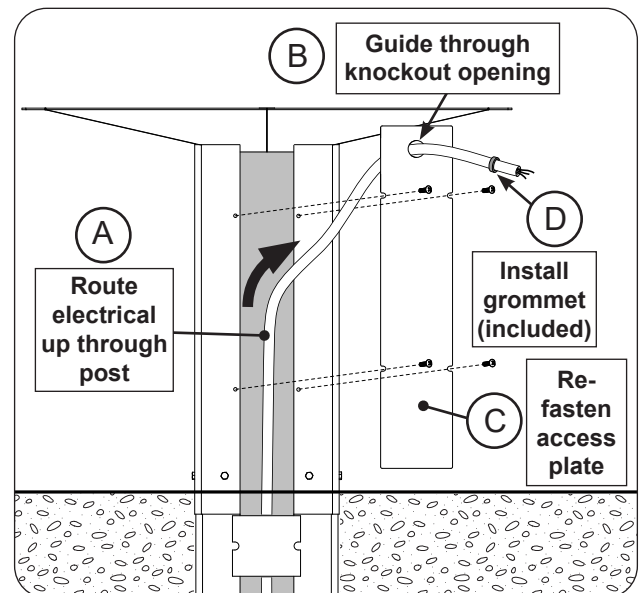

Fig. 33-1 Remove access plate and knock-out
- Guide wiring up the post assembly (See Fig. 33-1, A).
- Feed the electrical through the knockout hole of the access plate (see Fig. 33-1, B) and re-fasten the access plate (see Fig. 33-1, C).
- Install the grommet (included) onto the electrical and slide the grommet up against the knockout hole and snap into place (See Fig. 33-1, D).